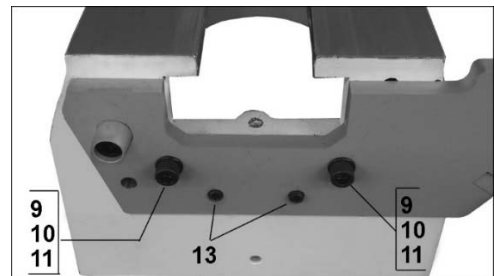

Figure 1
4. Mount Swing Away to lathe bed with provided screws and washers (#9/10/11, Figure 1). Do not tighten yet.